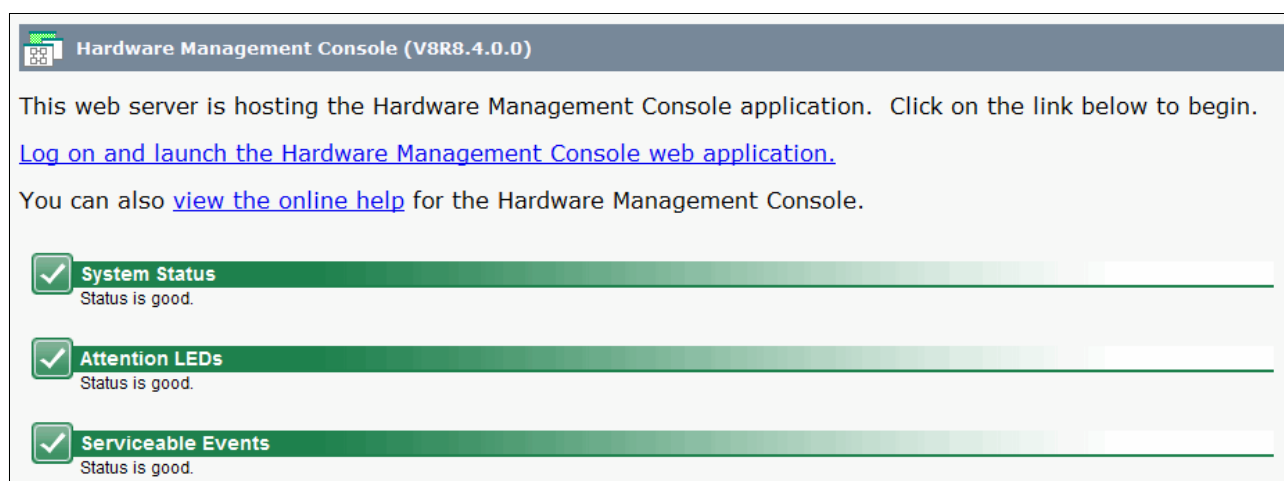

Figure 5-3 Welcome console panel
5. To log in to the HMC, click **Log on and launch the Hardware Management Console web application** from the Welcome window (Figure 5-3).